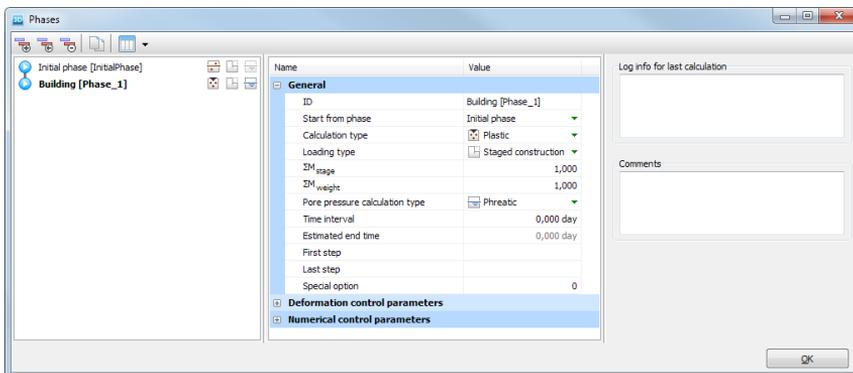

Figure 1.14 The *Phases* window for *Building* phase
- The current phase starts from *Initial phase*, which contains the initial stress state. The default options and values assigned are valid for this phase (Figure 1.14).